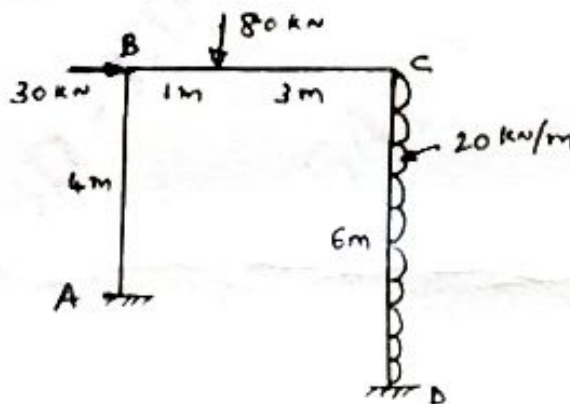

Fig Q2
2. Analyse the portal frame shown in Fig Q2 by slope deflection method. Draw bending moment diagram.